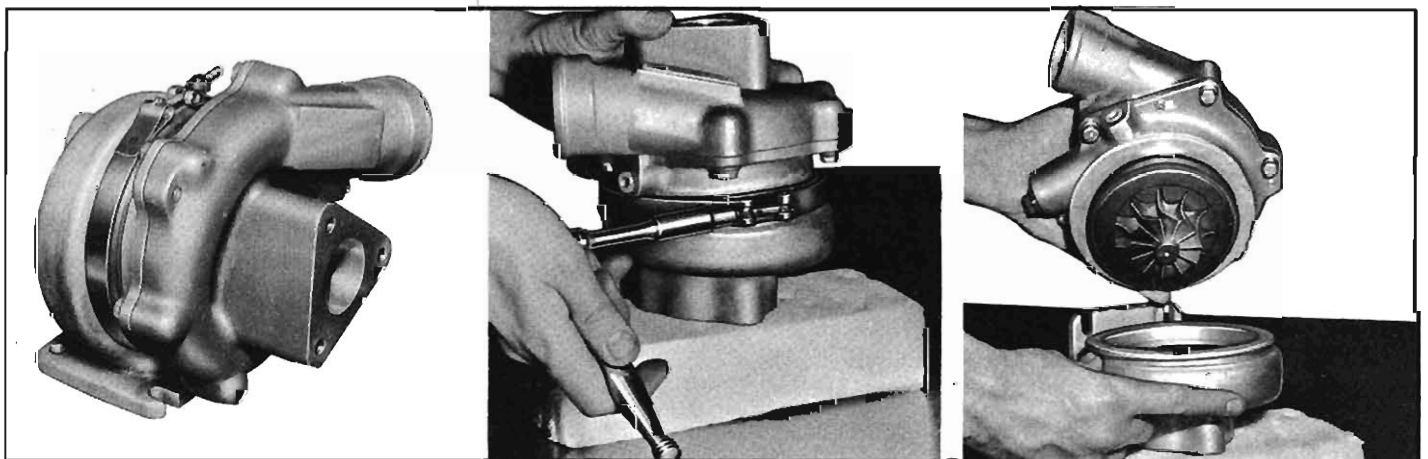

Fig. 9-58—Removal of the Turbine Housing for Installation of Replacement Supercharger
**INSTALLATION OF A REPLACEMENT SUPERCHARGER UNIT (Figs. 9-58 and 9-59)**